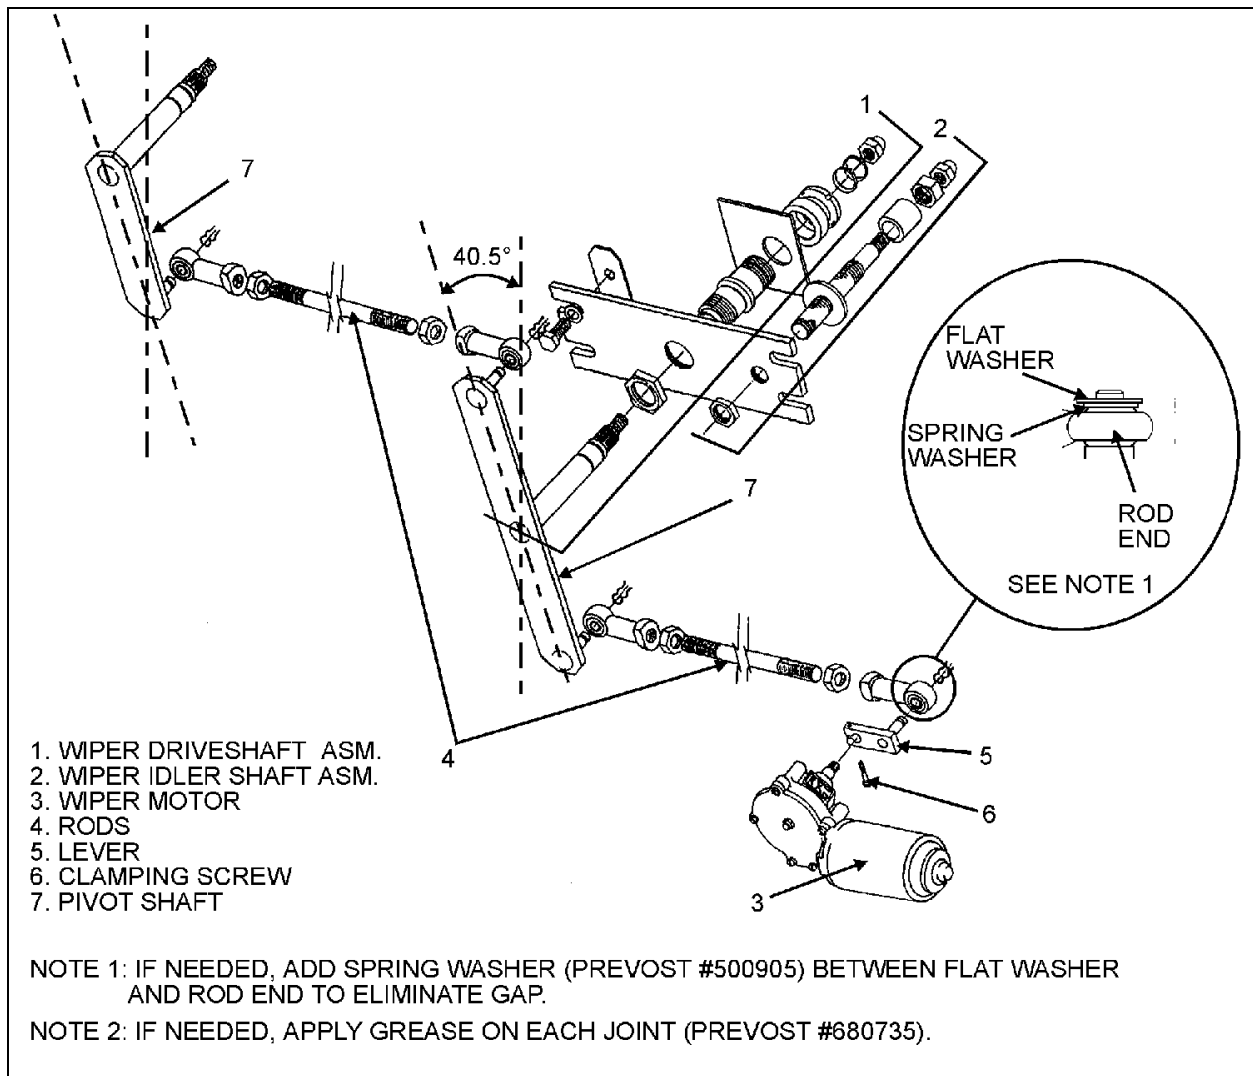

FIGURE 39: LOWER WINDSHIELD WIPER INSTALLATION
4. Adjust the rod located between right pivot shaft and motor to a 40.5° angle (fig. 39). The motor lever must be on the same axis as the rod.